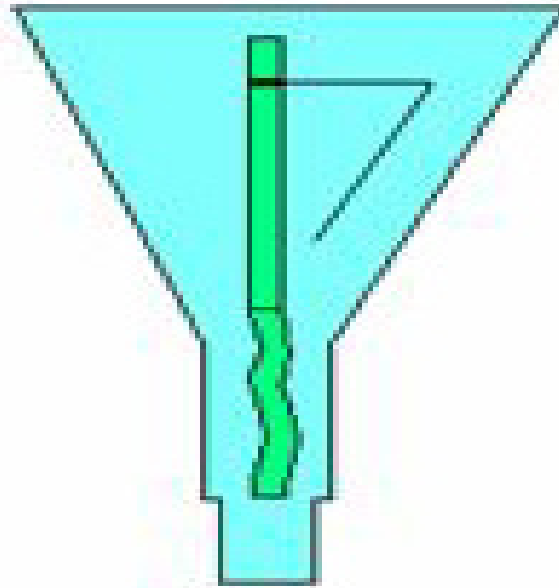

Figure 20.13 Auger filler
- The volume of product delivered by an auger filler (Figure 20.13) is controlled by the amount of time the auger turns or the number of turns it makes on each fill, in much the same manner that is used for rotary pumps.